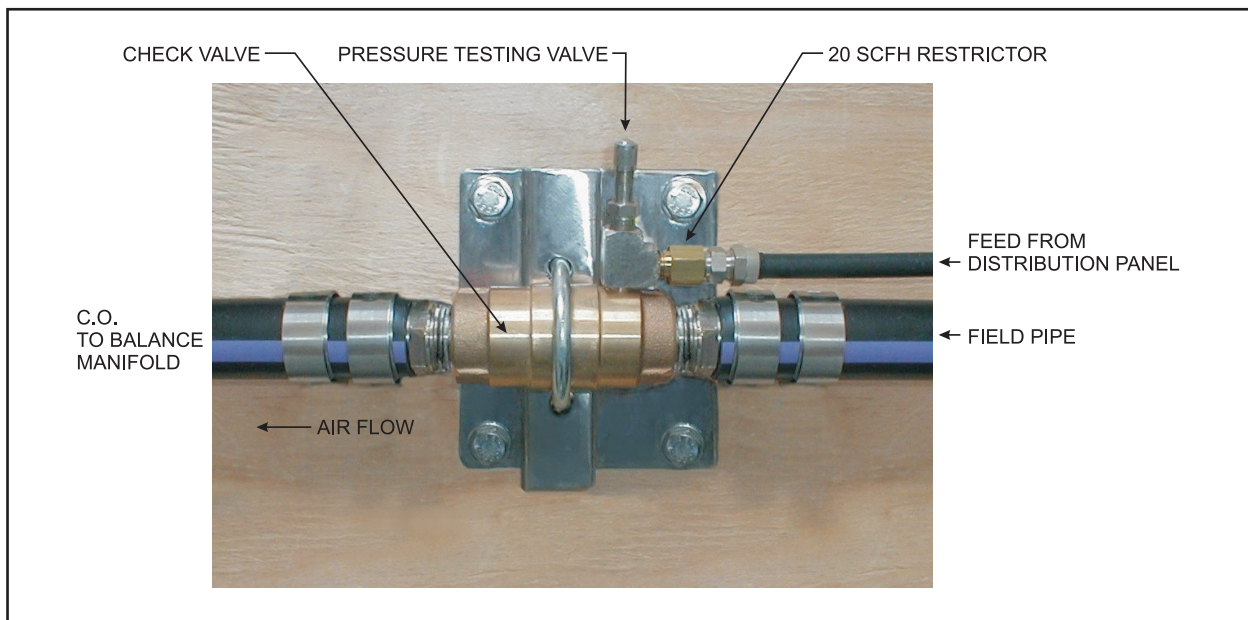

Figure 3—Emergency Air Receiver Assembly
- The Emergency Air Receiver Assembly (Figure 3) is a variation of the Emergency Air Feeder Assembly (described below). It is designed to be installed in the central office near the distribution panels.